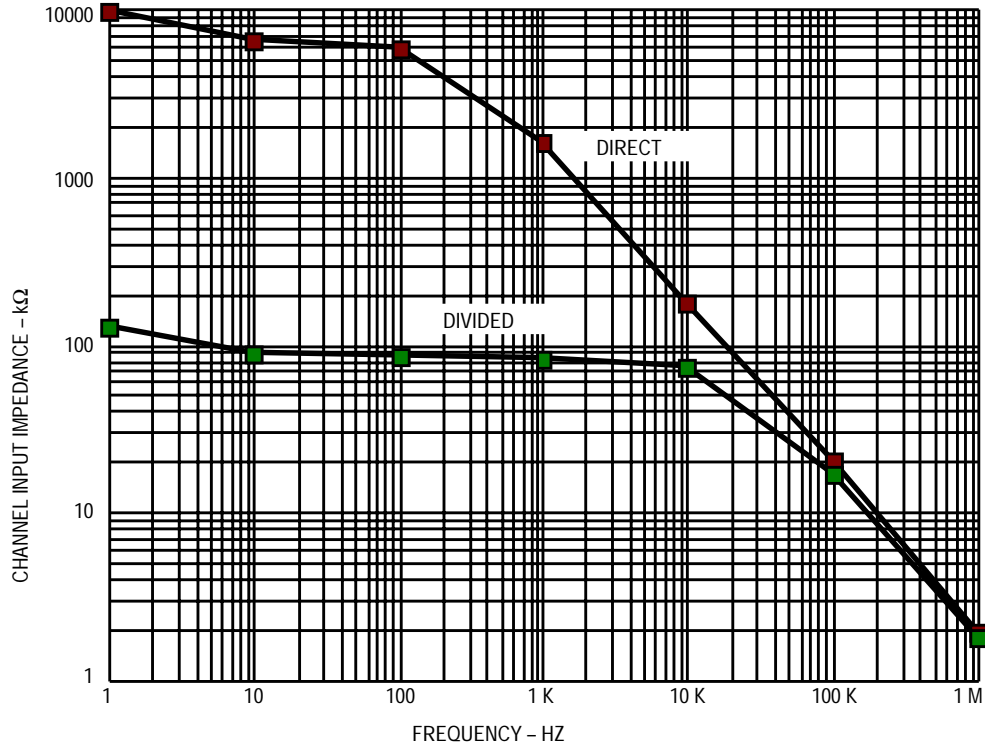

Figure 9. Typical Channel AC Input Impedance
2. Parasitic capacitances in the input and multiplexer circuitry will cause the input impedance to decrease with frequency as shown in Figure 9.
3. The input divider of 2:1 has an impedance of  $120 \text{ k}\Omega$  at DC, but decreases at high frequencies due to the sample capacitor as shown in Figure 9.